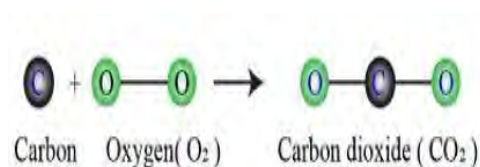

Figure 1
Observe changes shown in figure 1 & 2 and answer the following questions-
- What type of reactions do the figure 1 & 2 represent?